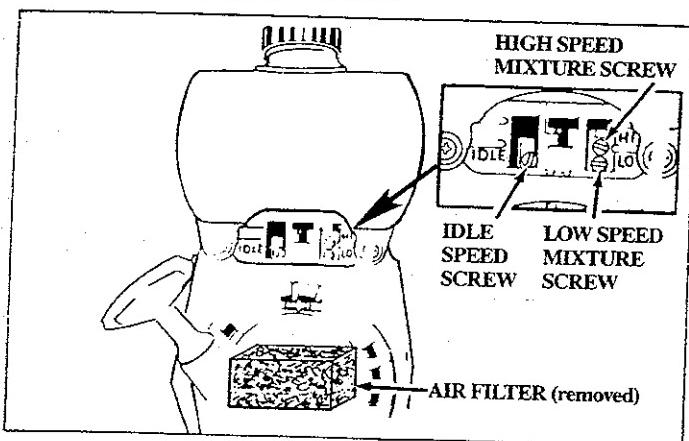

Figure 23
- b. Adjust Idle Speed Screw (Figure 23) until the engine continues to run without stalling and without the trimmer head moving.
- 2.) If the engine does not accelerate smoothly, turn the Low Speed Mixture Screw (Figure 23) counterclockwise ← a small amount (no more than the width of the slot in the adjusting screw).
- b. Turn the Low Speed Mixture Screw (Figure 23) slowly clockwise → until the speed starts to drop. Note this position.
- c. Turn High Speed Mixture Screw (Figure 23) very slowly clockwise → until engine speed is reduced.
- a. Turn the Low Speed Mixture Screw and the High Speed Mixture Screw (Figure 23) clockwise → just until they stop. Do not turn the screws until they are tight as damage to the needle seats can occur.